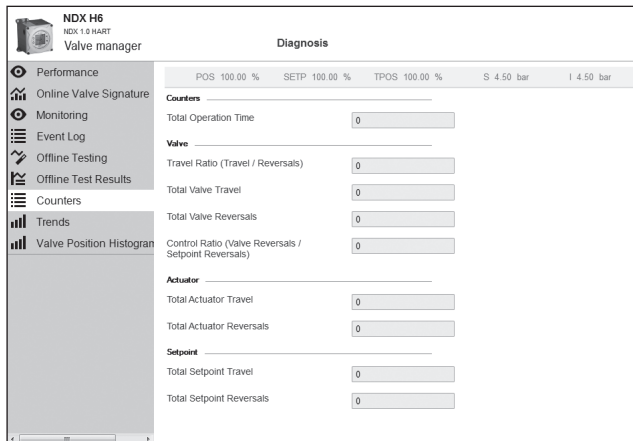

Fig. 75.
- under main cover and LUI module (Fig. 75)